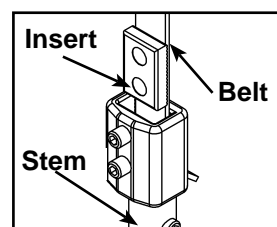
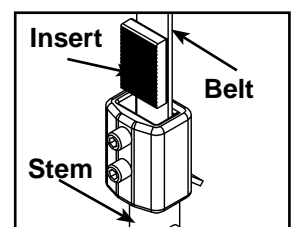

Figure 8A
Figure 8B
- D. Verify belt and insert are installed properly, as shown in Figure 8A. **NOTE:** Do not install the insert backwards as shown in Figure 8B.